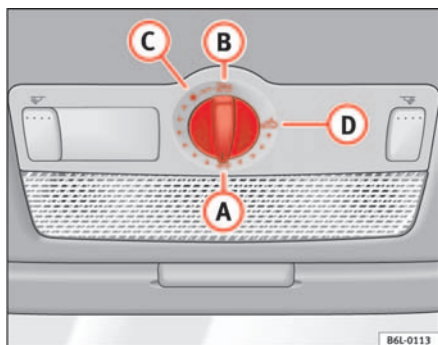

Fig. 52 Detail of the sunroof: rotary button for sliding/tilting sunroof
- Turn the rotary button to position **(A)** ⇒ fig. 52 ⇒ .